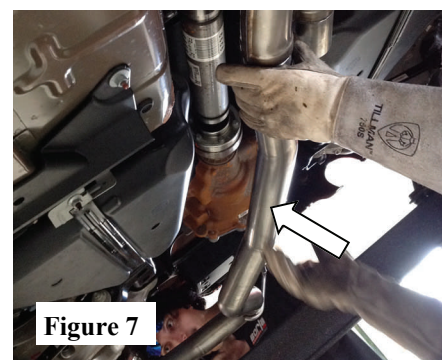

Figure 7
3. Install the **L/H Over-Axle Pipe Assembly** to the Left-side of vehicle inserting the hangers into the rubber isolators. (See Fig. 7)